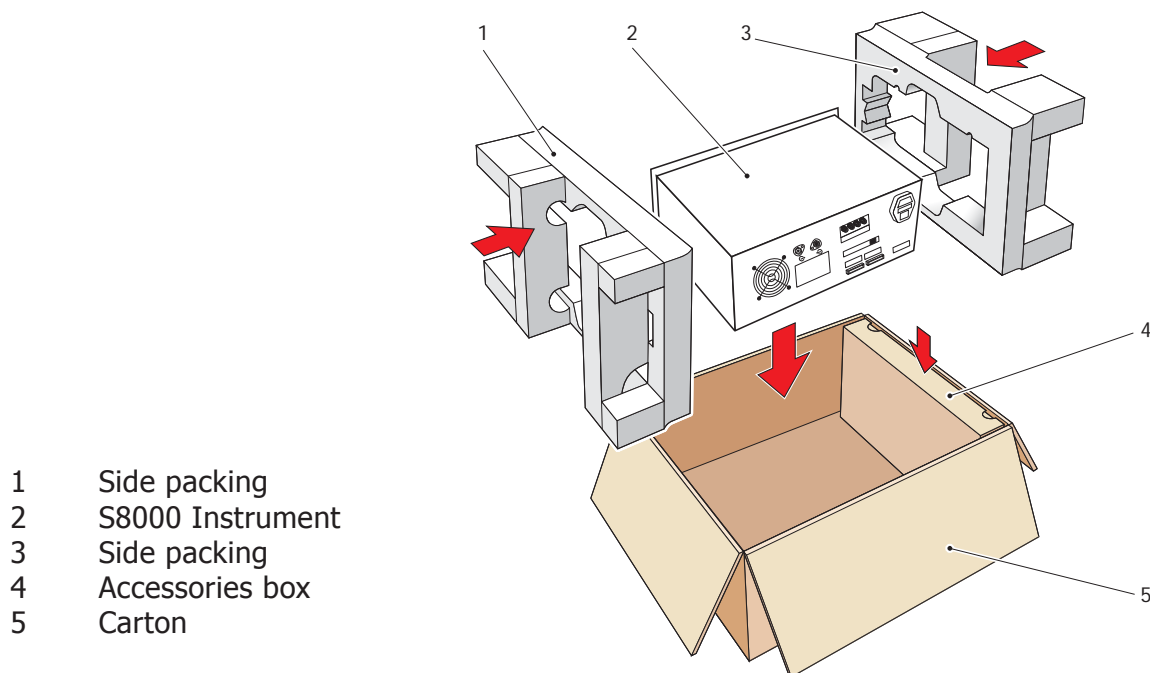

Figure 42 Instrument Packing Details
2. Right click on the card icon and select **Format** from the pop-up menu (refer to *Figure 42*).